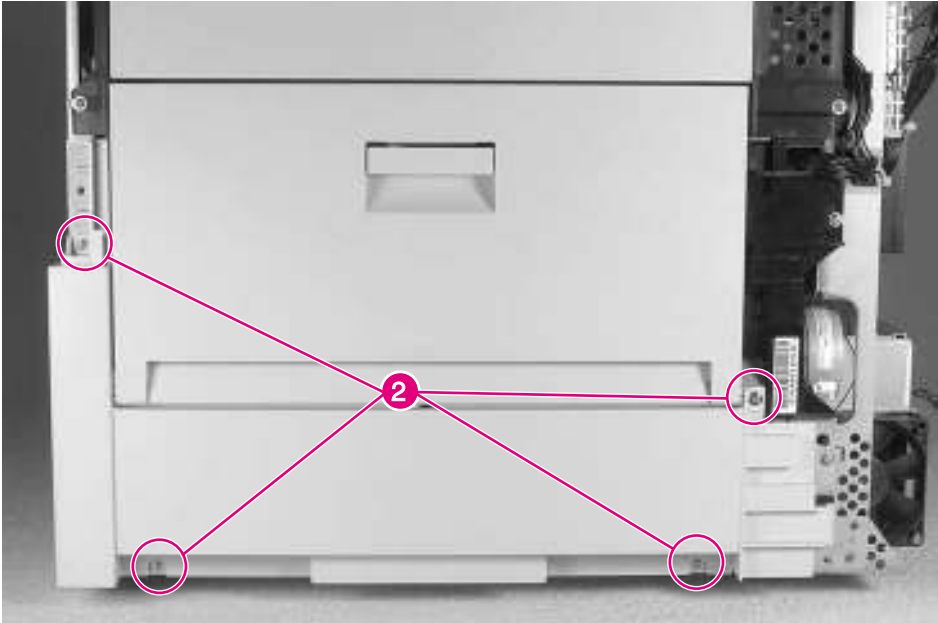

Figure 6-17 Right Lower Door Assembly (2 of 3)
- 4 Remove 4 screws (figure 6-17, callout 2).